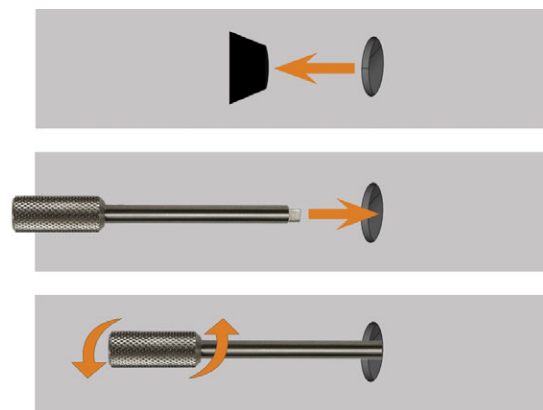

FIG. 47 USING THE KEY FOR THE EMERGENCY RELEASE
3. Deactivate the safety interlock of the working chamber door, as shown in the figure (↗ Fig. 47 see below):